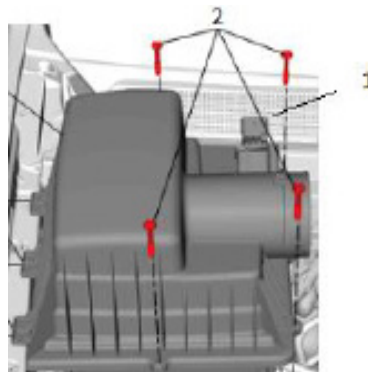

Figure 1
- Unplug MAF sensor (1 in Figure 1). Loosen clamp and remove engine cover duct from factory airbox lid. Loosen four screws (2) and remove factory airbox lid from factory airbox housing. Airbox will not come out easily unless you remove the lid first.